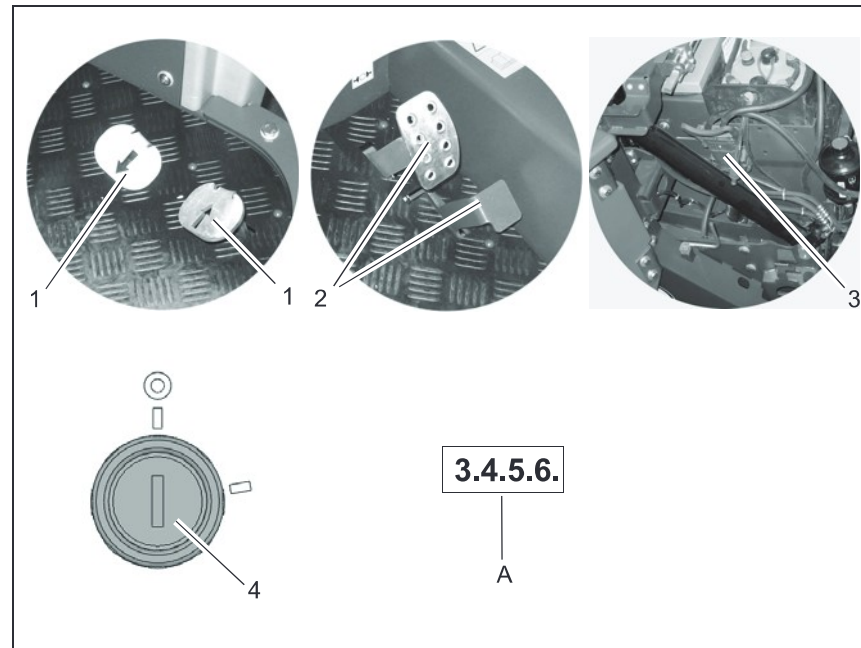

Fig.4
2. The vehicle's parking brake must be applied (Fig. 4/2).
3. Connect the battery plug (Fig. 4/3) to the device connector.
4. Turn the key switch (Fig. 4/4).
- The operating hour counter (Fig. 4/A) displays the software version, possibly the last diagnostic code and the operating hours in succession.